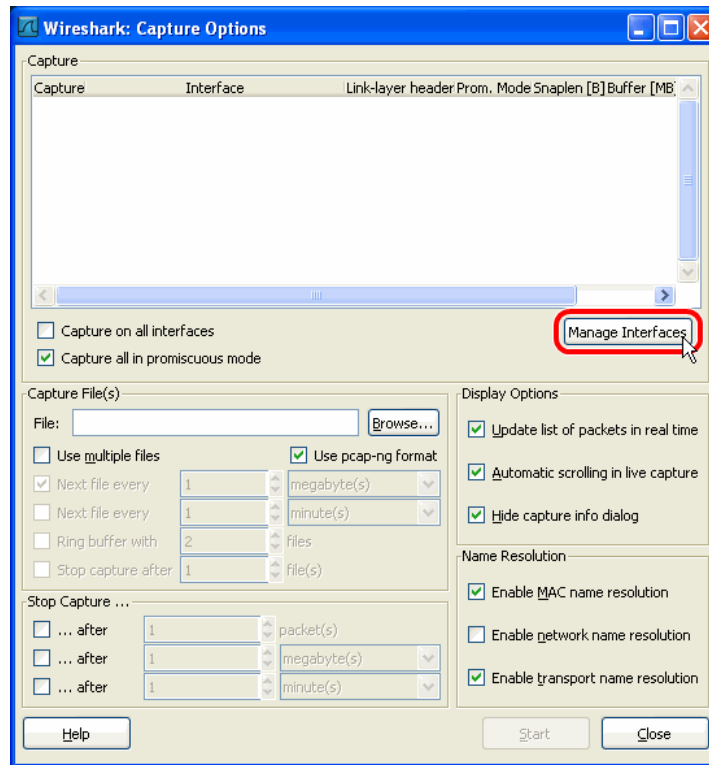

Figure 135: Wireshark Capture Options Dialog.
1. Open Wireshark and choose the menu **Capture** → **Options...**. This opens the **Capture Options** dialog as shown in Figure 135.